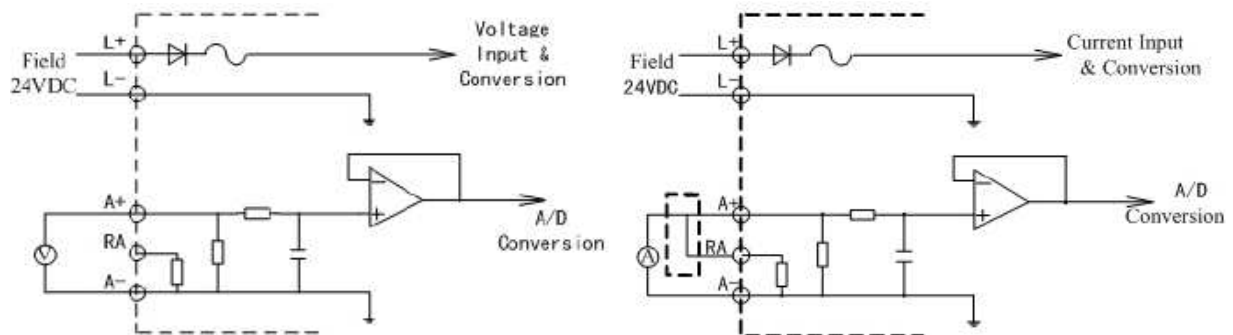

Figure3-2-14 LM3310B Voltage, Current Input Channel Equivalent Circuit
Input channel (AI) (voltage, current signal input) equivalent circuit is shown in Figure 3-2-14.